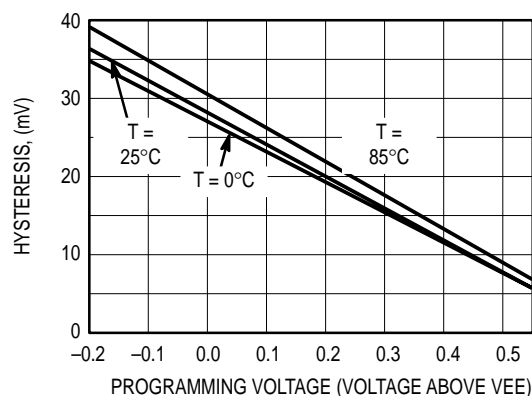

Figure 2. Hysteresis Programming Voltage
1. The HYS pin programming characterization information is shown in Figure 2. The hysteresis values indicated in the data sheet are for the condition in which the voltage on the HYS pin is set to V_{EE} .
2. Hysteresis skew (V_{skew}) is provided to indicate the offset of the hysteresis window. For example, at 25°C the nominal hysteresis value is 27 mV and the V_{skew} value indicates that the hysteresis was skewed from the reference level by 1 mV in the negative direction. Hence the hysteresis window ranged from 14 mV below the reference level to 13 mV above the reference level. All hysteresis measurements were determined using a reference voltage of 0 mV. The hysteresis skew values apply over the programming range shown in Figure 2.